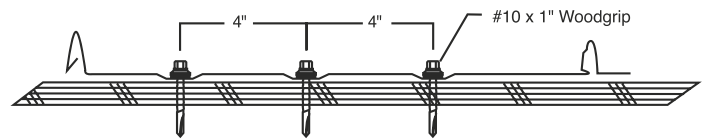

Figure 4
A. Panels can be fastened along the eave with a #10 x 1" painted neoprene wood grip fastener. Fasten along a line parallel to the eave edge and 3" up from the eave edge. The fasteners can be spaced 4" apart in the minor rib striations as shown in Figure 4.